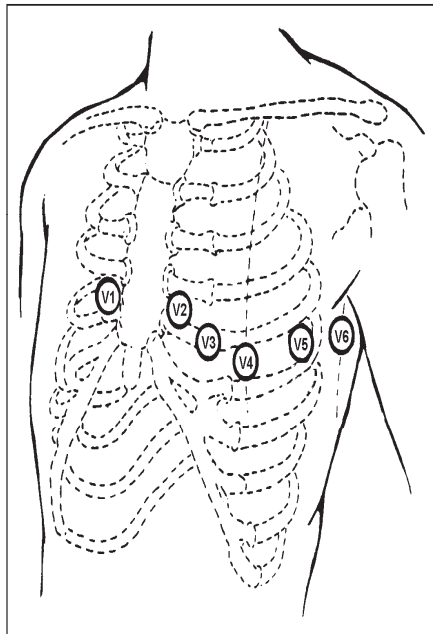

Figure 3-8. Position the electrodes
(1) Secure the leg electrodes on the medial or lateral aspect of the calf.
(2) Secure the arm electrodes on the arm or forearm, ensuring that the connections are not on, or adjacent to, an intravenous (IV) site.
(3) Connect the limb leadwires to the electrodes.
d. Position the electrodes, being careful to place them over the intercostal spaces and not directly over the ribs. (See Figure 3-8.)